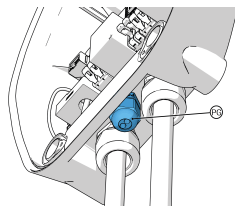

Fig. 3a
- For **Dazebox C**, shown in Figures 3a and 4a, the shielded network cable must pass through a hole in the cable gland (PG) by breaking the blind bottom using a screwdriver. This cable gland has two Ø5 mm blind holes, one designated for the Power Manager and the other for the bipolar cable of the release coil (refer to the Dazebox C Installation Manual).